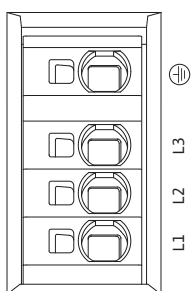

Fig. 33: Maitinimo gnybtai (maitinimo įtampos gnybtai)
- Maitinimo gnybtai (tinklo prijungimo gnybtai) (Fig. 33)